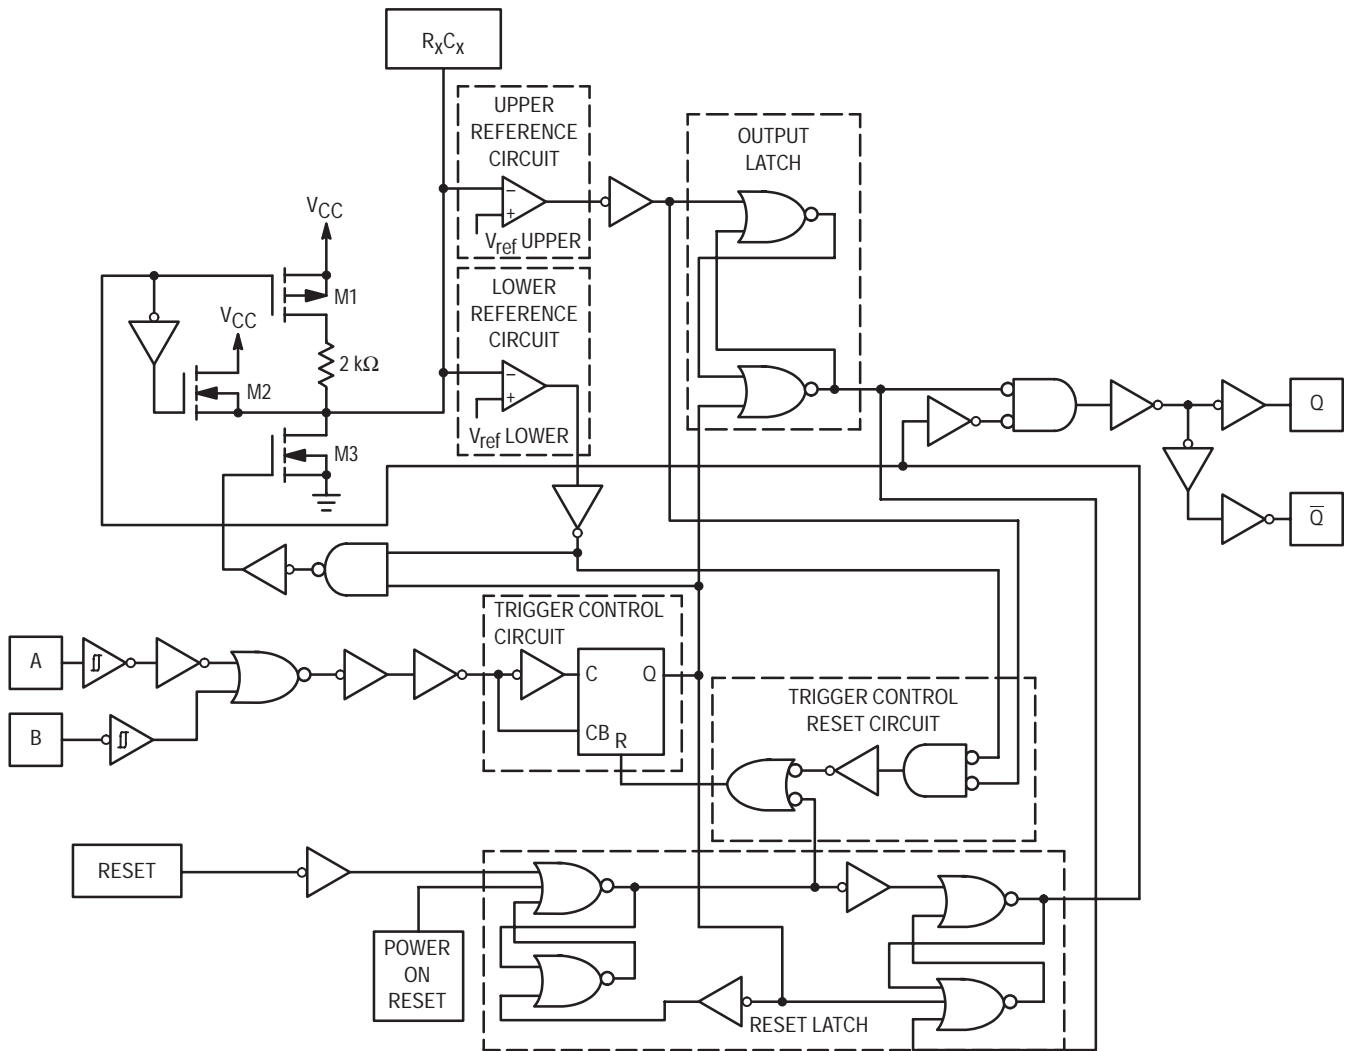

Figure 2. MC74HC4538A Logic Circuit Detail
- 1) Time to discharge $R_X C_X$ from V_{CC} to ($V_{ref\ lower} = 1/3 V_{CC}$) $T_{discharge}$. This discharge occurs quickly because external resistance, R_X , does not have any effect on the RC time constant. The resistance in the discharge path, as seen in Figure 2, is the on-resistance of M3, and the interconnect resistance. The interconnection resistance is dependent on the polysilicon sheet resistance, the metal sheet